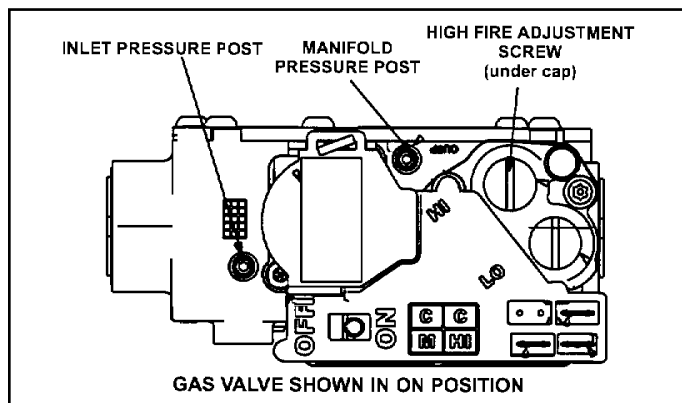

Figure 64. Gas Valve Shown in ON Position
6. Move gas valve switch to OFF. See Figure 64.
8. Move gas valve switch to ON. See Figure 64.
- A manifold post located on the gas valve provides access to the manifold pressure. See Figure 64. Back out the 3/32 Hex screw one turn, connect a piece of 5/16" tubing and connect to a manometer to measure manifold pressure.